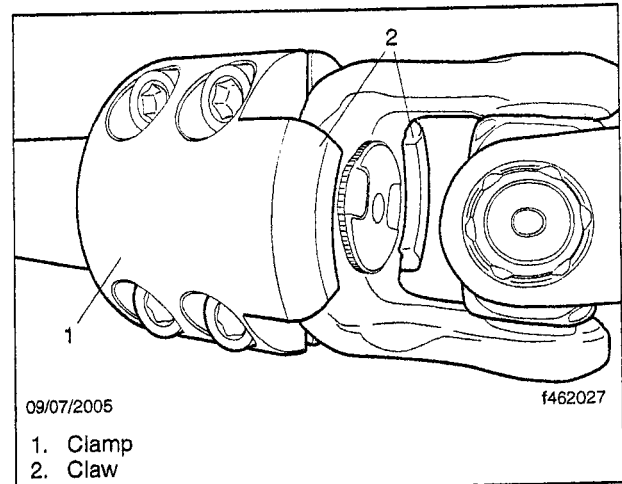

Fig. 5, Clamp Installation on the Steering Shaft (FCCC XC Motorhome Chassis Installation Shown)
4. On the lower-steering-shaft end nearest the steering gear, install a clamp from a kit with the claws extending over the U-joint yoke. See **Fig. 5**.
7. On the upper-steering-shaft end nearest the bevel box, install the clamp from a kit so that the claws extend over the U-joint yoke. See Fig. 5.